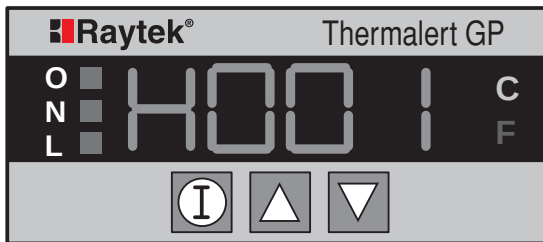

Figure 6: Device Selection Display
1. From the temperature/value display, press and hold , press , then release them both. A display similar to Figure 6 appears. (The “H” will be followed by numbers designating the device type. See Step 2.)